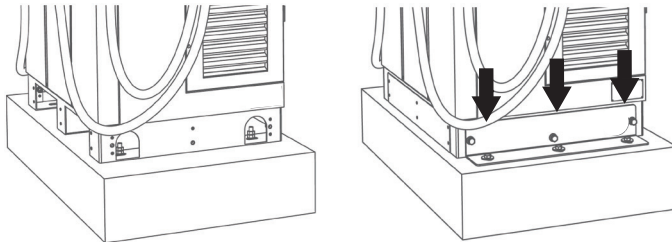

Figure 17. L-Bracket Install
1) Attach the L-brackets using 6 M12 expansion bolts. See Figure 17.